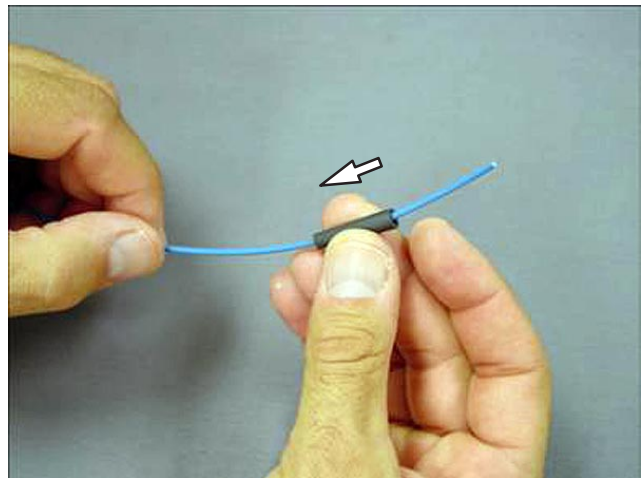

Figure 61
6. Slide the boot on the cable with the small end first as shown in Figure 61. Repeat for second end.